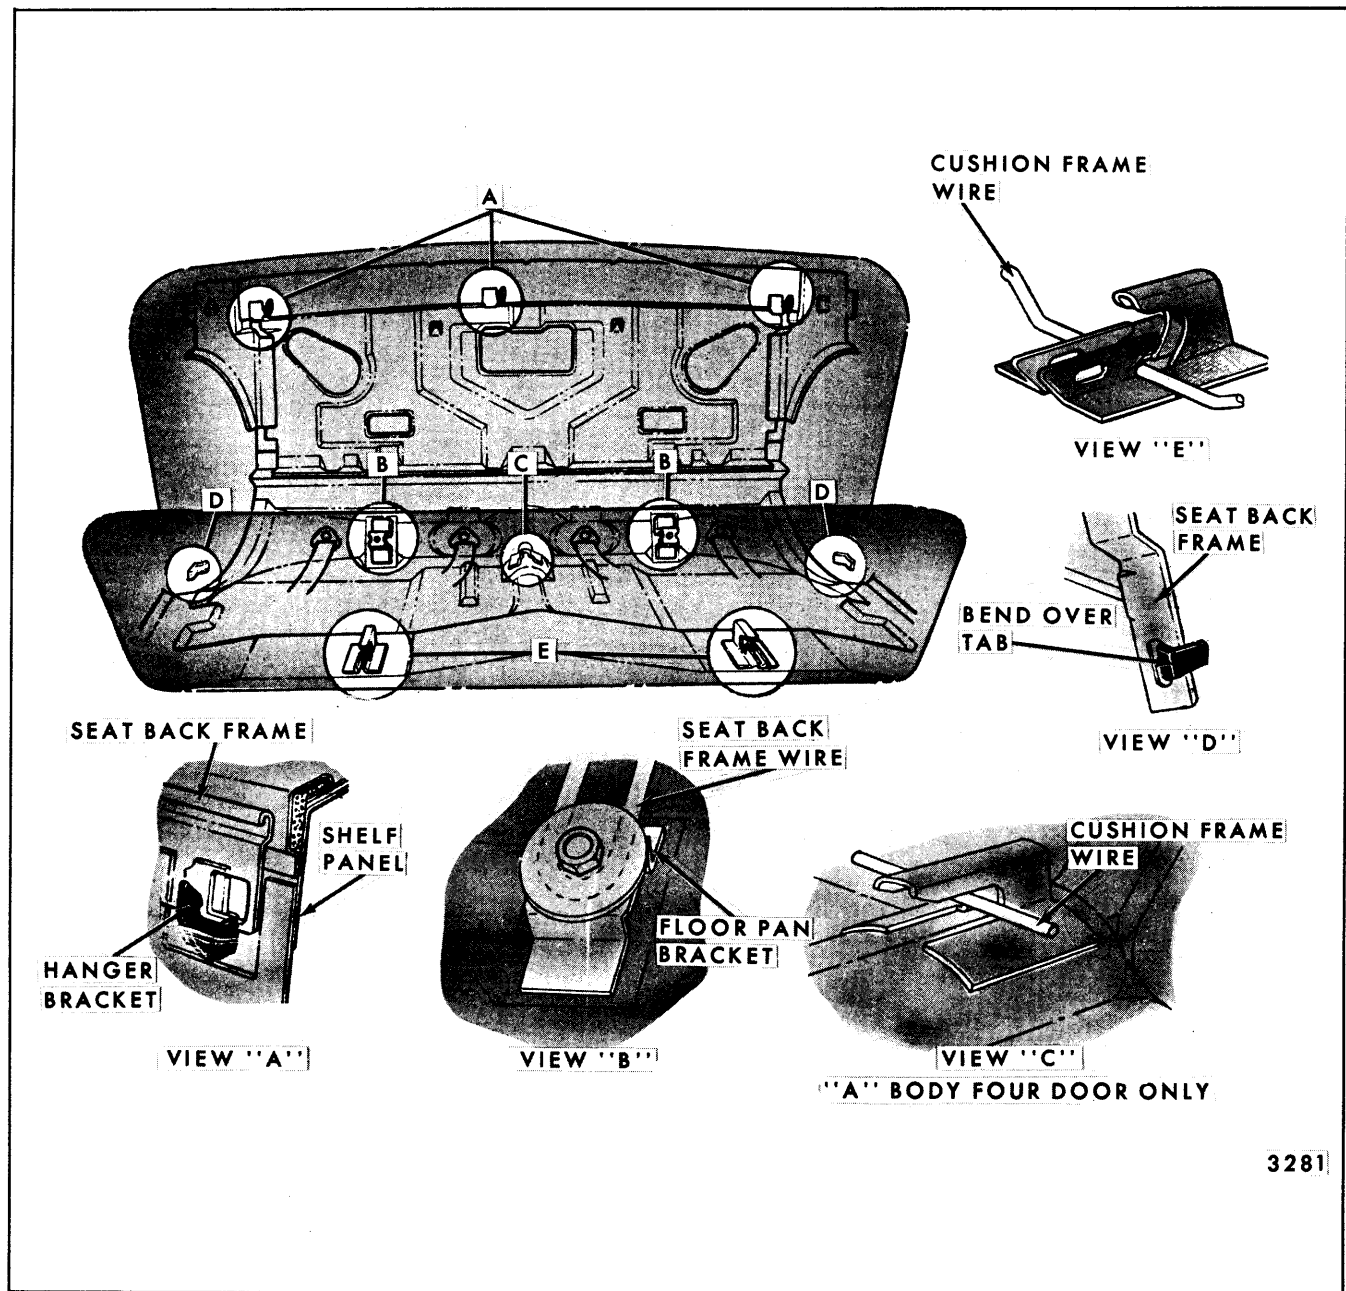

Fig. 15-58—Rear Seat Cushion and Back Installation - All Styles Except Station Wagons and Cadillac Limousine
1. Push lower forward edge of seat cushion rearward; then, lift upward and pull forward on seat cushion frame to disengage cushion frame wires from retainers on rear seat pan (Fig. 15-58).
**NOTE:** If difficulty is experienced in disengaging the front edge of the rear seat cushion from retainers on rear seat pan it may be necessary to kneel (on four-door styles) or stoop (on two-door styles) on the rear floor pan. Grasp lower edge of seat cushion at location of retainer on one side of seat; then, lean forward (towards seat cushion) using leg pressure against hands or arms, exert sufficient rearward pressure to disengage seat from retainers (Fig. 15-58).